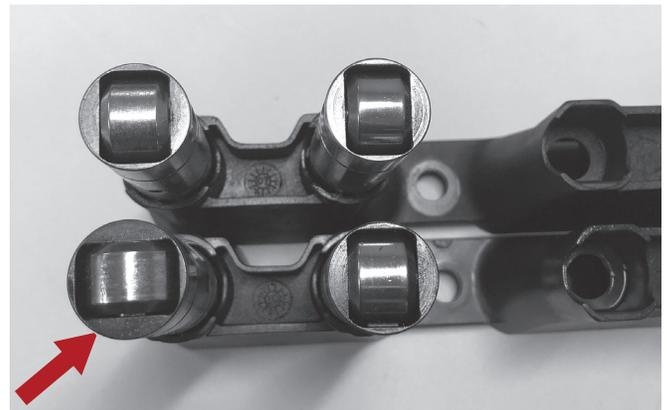

FIG 1: Worn Lifter Guide/Misaligned Roller
6) Damaged lifter guides allowing valve lifter roller misalignment with a camshaft lobe (Fig 1)